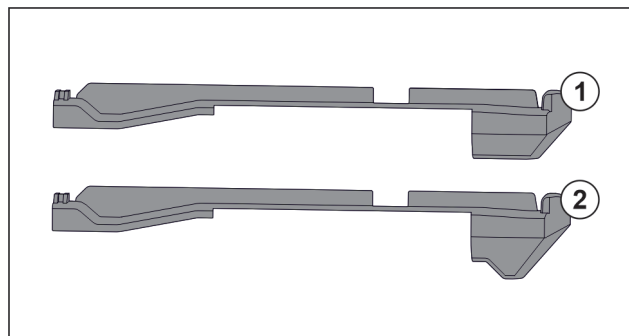

Fig. 147 Comparing attachments
There are two different attachments in the appliance. The attachment above the lowest drawer Fig. 147 (2) has a three-cornered edge. All other attachments Fig. 147 (1) have a straight edge.
- Fit attachment Fig. 147 (2) with the three-cornered edge above the lowest drawer.
- Fit attachment Fig. 147 (1) with straight edge in all other positions.